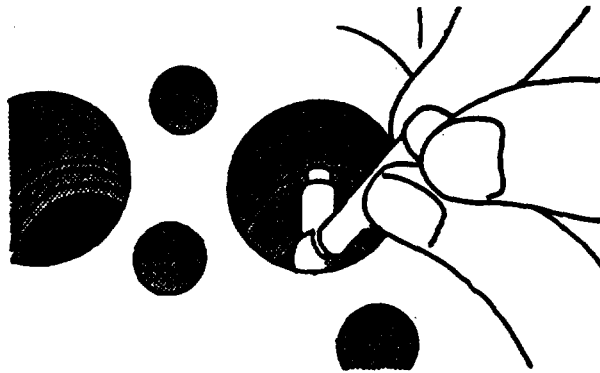

**FIGURE 3-138. Measuring Main Bearing Bore Diameter**
- (1) Measure main bearing bore diameter, refer to FIGURE 3-138. Main bearing bore diameter must be 3.325 to 3.326 inches (84.46 to 84.48 mm).
- (2) Measure engine block main thrust bearing width. With must be 1.3235 to 1.3275 inches (33.62 to 33.72 mm)
- (3) If bearing caps are damaged, or bore is not within specification, replace cylinder block.